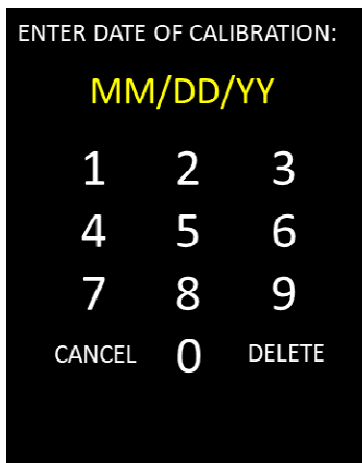
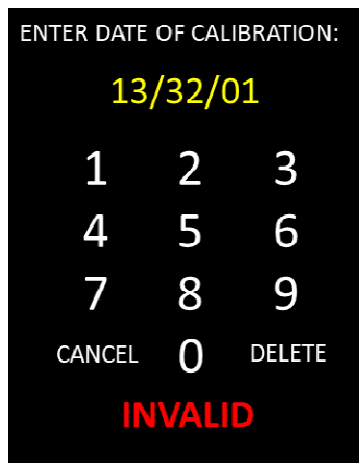

Figure 21. Date Prompt
Figure 22. Invalid Date
- 10.4 Enter the date that the calibration took place on (Figure 21). If an invalid date is input, the screen on Figure 22 will appear and you will not be allowed to continue until a valid date is entered. When a valid date has been entered, select ENTER to continue.